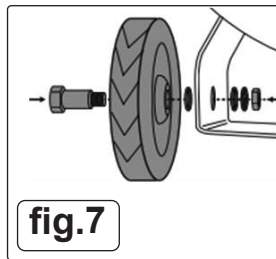

fig.7
4.4.4. Fasten the wheel bolt in position with a washer, spring washer and hex nut. Fig.7